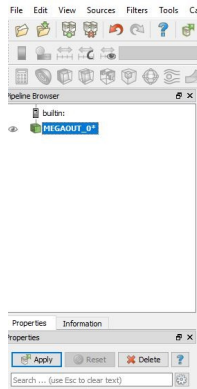

Figure 3: Apply the model
Step 2 Apply the model.(Figure.3)